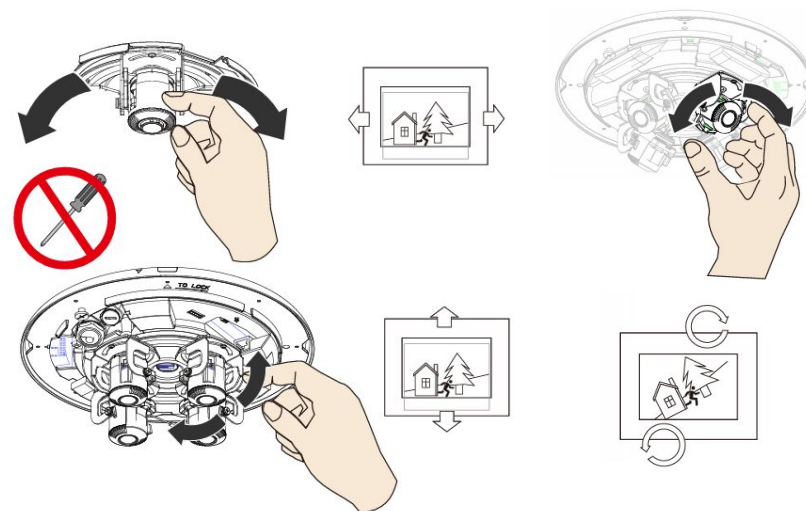

Figure 1-8
Step 8 Adjust the viewing angle of each lens as needed. See Figure 1-8.